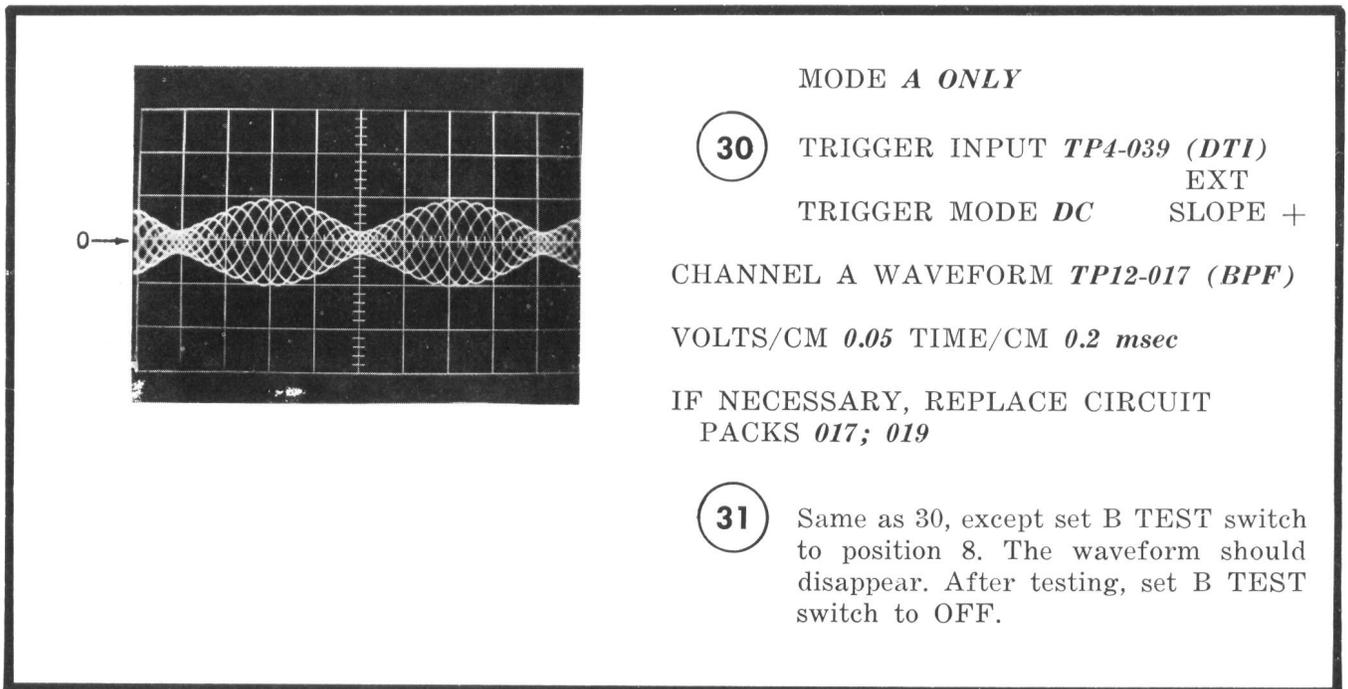

Fig. 26 — Transmit-Receive Switch Test
9.26 The waveform requirements shown in Fig. 26, Step 30 displays bandpass filter output under test conditions.